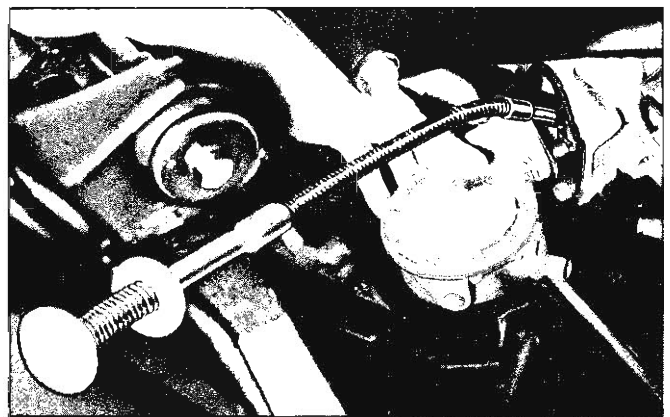

Fig. 26—Installing V-8 Engine Fuel Pump
**NOTE:** On V-8 engines a pair of mechanical fingers may be used to hold fuel pump push rod up while installing pump (fig. 26).